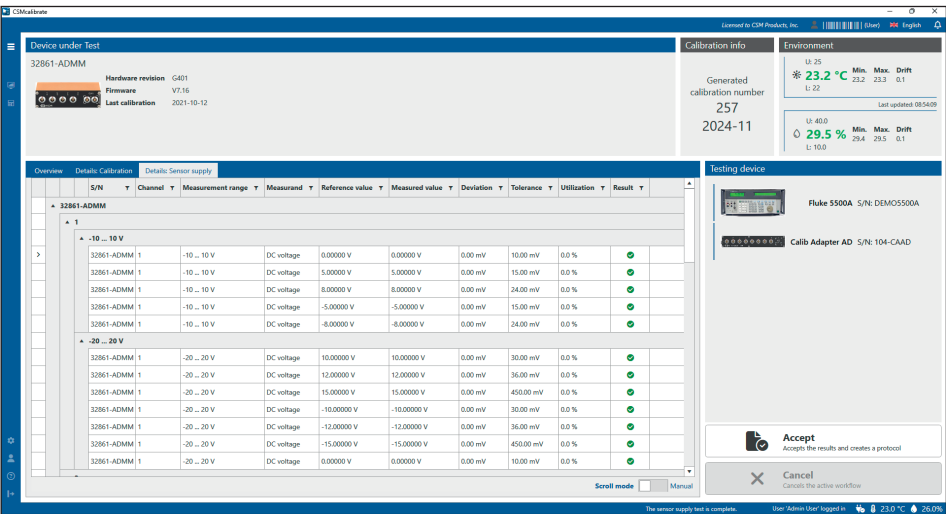

Fig. 2-18: Detailed information on the sensor supply test
☞ To complete the process, click on **Accept** (Fig. 2-18, ①) in the **Testing device** section to create the calibration protocol.